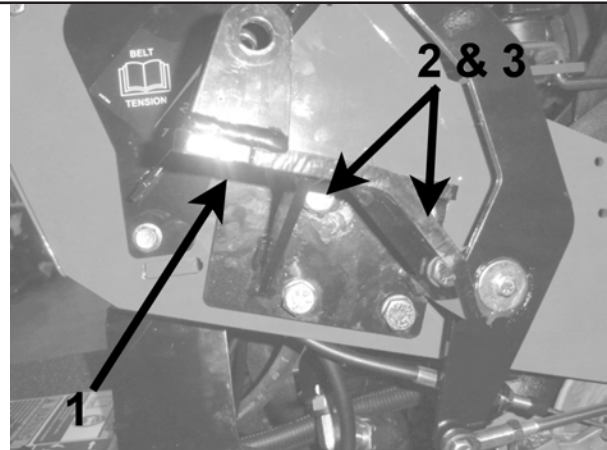

Figure 1
1. On the right front frame, install the Actuator Mounting Bracket **1** with four bolts **2** and lock washers **3**. Tighten the top two bolts first when installing. (**Figure 1**)